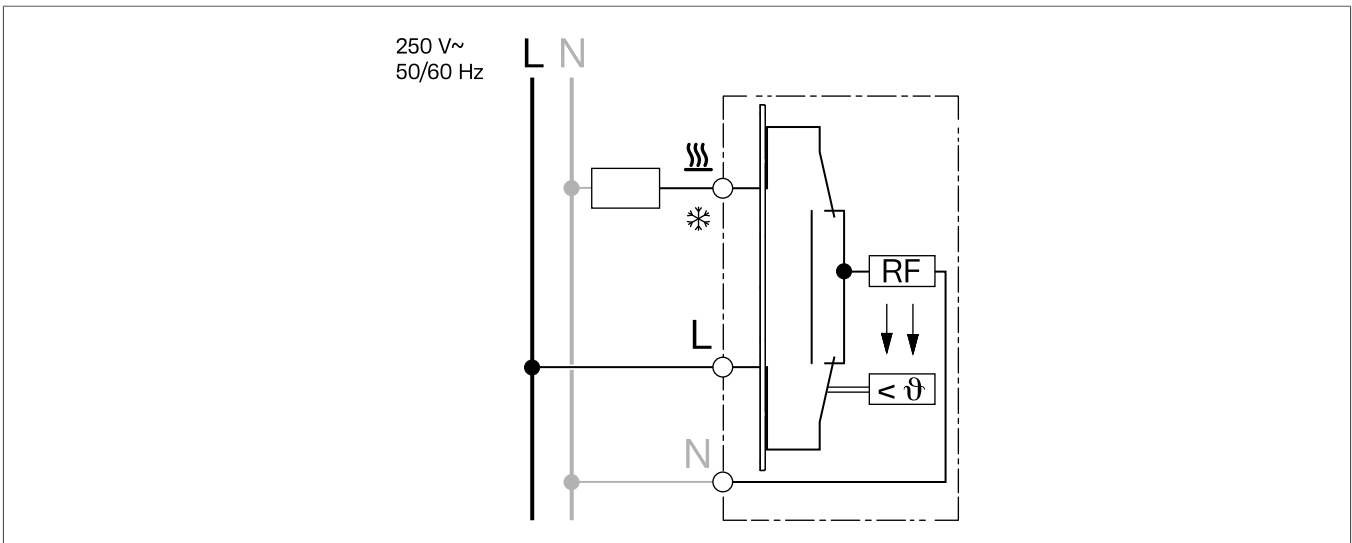

Fig. 4: Connection diagram
- 1 Connect the controller (1) according to the connection diagram (Fig. 4).